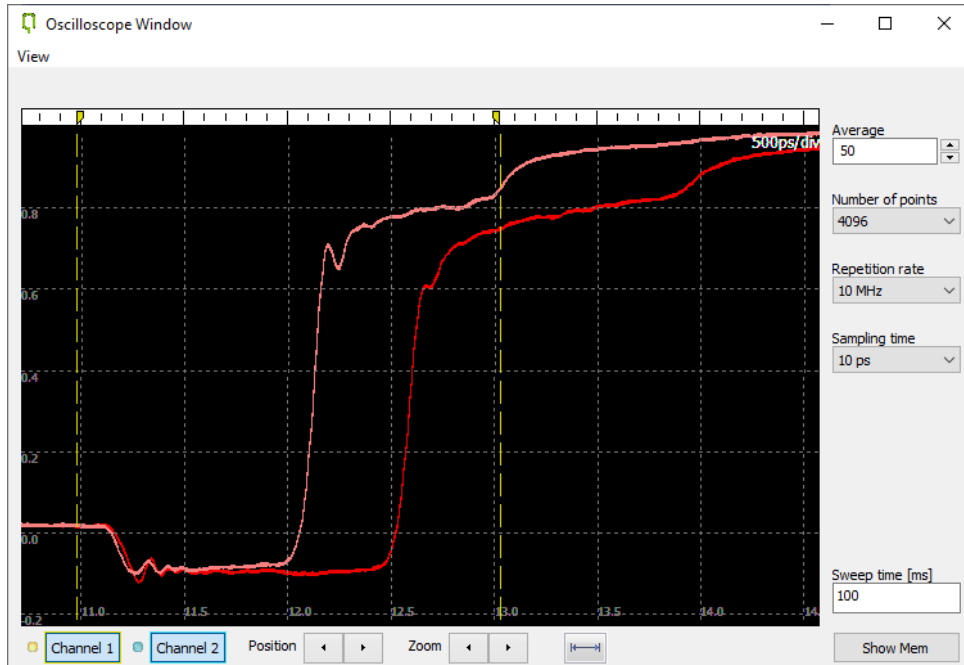

Figure 11: Oscilloscope Window showing  $\epsilon^{base}$  measurement
- After all measurements have been done, please open the *Impedance Measurement Properties Window* again and set *Mask Start* and *Mask Stop* in such a way, that the first step from the cable to the (see left marker in Fig. 11) and the end reflection from the longer Microstrip line (see right marker) are included.